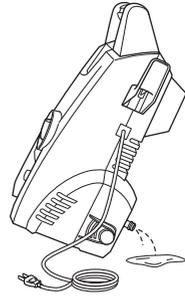

Fig. 18
- (1) Loosen the ring.
- (2) Remove the high-pressure hose from the washer's water outlet.
- (3) Drain all residual water from the high-pressure hose.
4. Drain the water from the washer (Fig. 18)